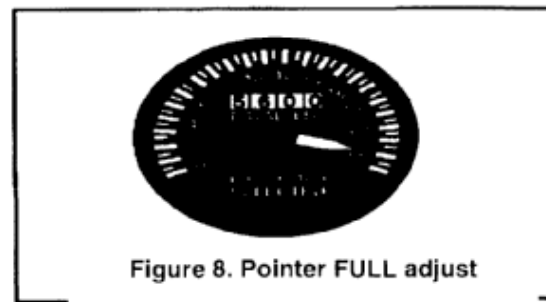

Figure 8. Pointer FULL adjust
34. Adjust "F" trimmer, marked "D" for "Dial" indication, until gauge pointer reads **2200 lb** (Figure 8).